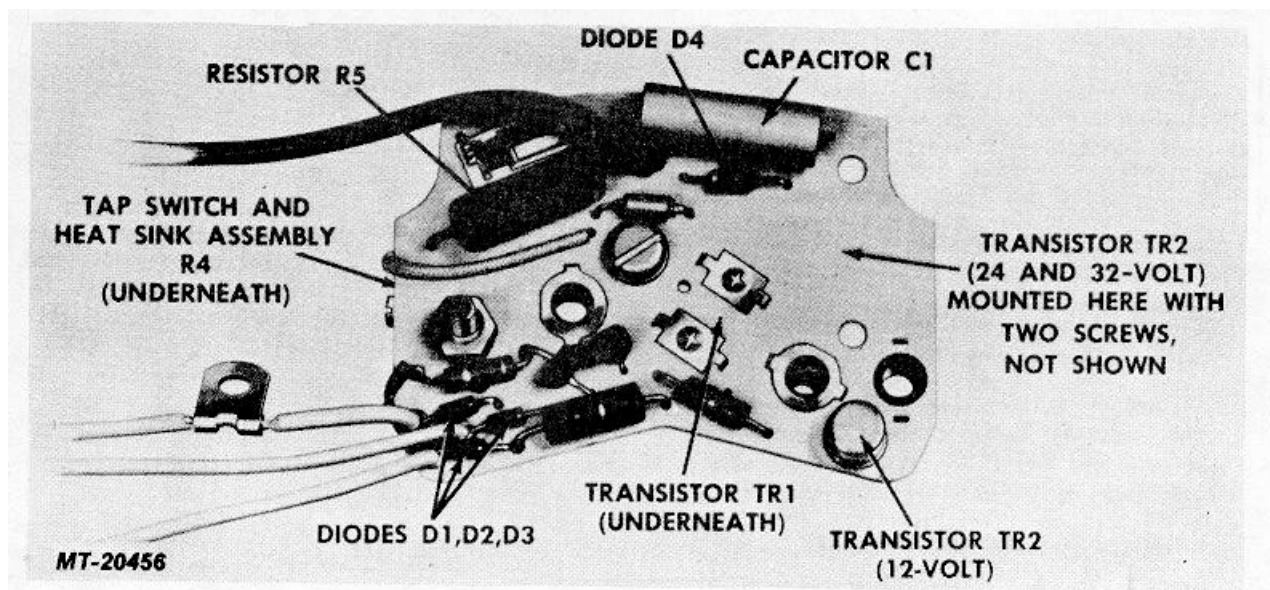

Fig. 12 Regulator Panel Board Assembly
REGULATOR REPLACEMENT OR REPAIR (Regulator shown in Figure 12 only)
The regulator can be repaired by following the procedure outlined below. The panel board (Figure 12) is shown without the sealing compound so that the seven (7) serviceable parts can be easily identified.
The replacement transistor for TR2 may be a small black unit with a red dot and a flat side. When assembled, the flat side should face towards diodes D1, D2 and D3 (Figure 12).
g. Capacitor C1 (Figure 12) Visually inspect for broken leads.